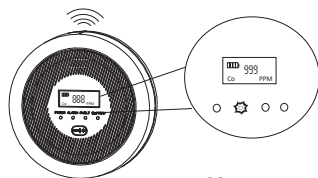

Figure 2
5) Crash:when CO gas detected exceeds the maximum range of 999, LCD screen displays'999'(refer to Figure 2)